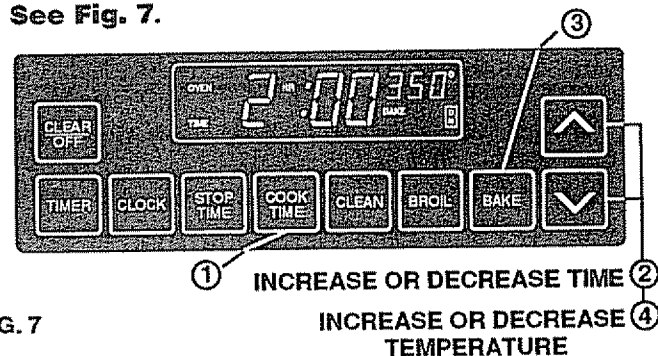

FIG. 7
4. Select temperature using UP or DOWN arrow. See Fig. 7.